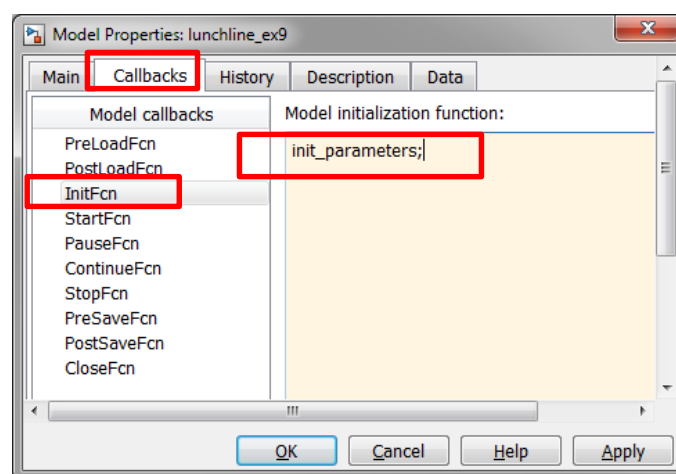

Figure 38: Model Callbacks (InitFcn)
4. Click on the ‘Callbacks’ tab, highlight ‘InitFcn’, then enter ‘init_parameters;’ in the right window as shown in Figure 38.